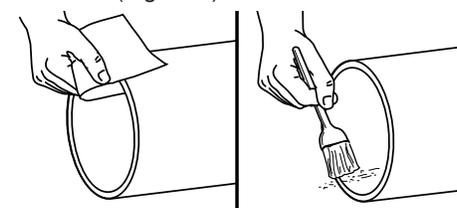

Figure 6
5. Remove burrs with a file and clean outer conductor end until bright clean. Remove any debris from the interior of the conductor (Figure 6).
5. Remove burrs with a file and clean thoroughly inner conductor end. Remove any debris from the interior of the inner conductor (see Figure 6).